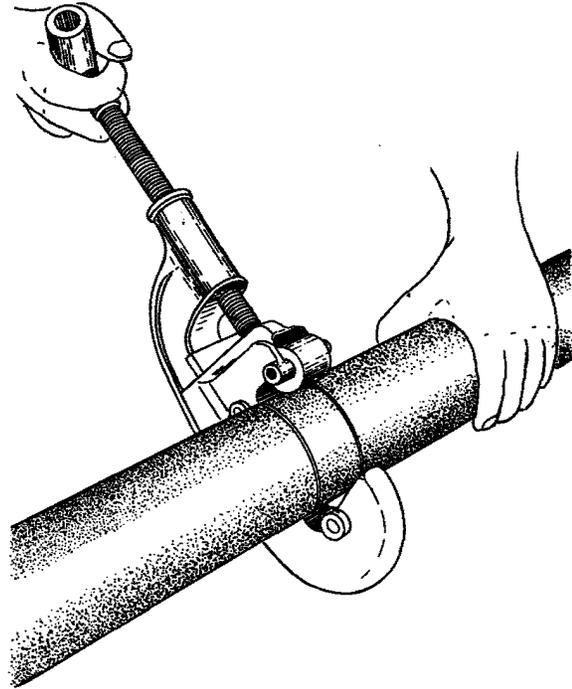

Fig. 27
- (A) Catalogue Number 148-507 - Flaring tool which flares sheath to correct angle for fittings to be used on 3-1/8-inch cable.
- (A) Catalogue Number 155-507 - Flaring tool which flares sheath to correct angle for fittings to be used on 1-5/8-inch cable.
- (B) Catalogue Number 149-507 - Rotary cutter fitted with special wheel and rollers for use in cutting 3-1/8-inch cable sheath.
- (C) Catalogue Number 150-507 - Rotary cutter fitted with special wheel and rollers for use in cutting cable tubing 5/8-inch to 1-5/8-inch outside diameter.
- (C) Catalogue Number 131-507 - Rotary cutter fitted with special wheel and rollers for use in cutting cable tubing 1/2-inch to one-inch outside diameter.
- (D) Catalogue Number 134-507 - Electrically heated hot knife which may be used in all sizes of cables. The knife will screw into a standard Western Electric soldering iron.
- (E) Catalogue Number 137-507 - Silicone compound to be used on "O" ring seals.
- (a) Apply the large rotary cutter to cable as shown in Fig. 27 and cut through the cutter roller rapidly in order to produce a heavy burr on the inside surface of the sheath. Make a similar cut in a 2-inch section of sheath which is supported only by the polystyrene helix and the insulating skin. The burrs formed hold the helix in place and prevent the thin laminations from unravelling.